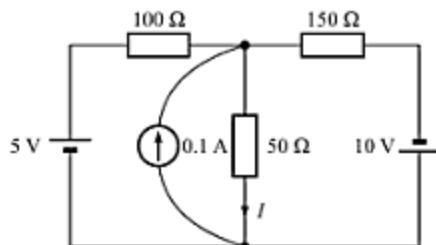

Fig. 4.40
- For the circuit shown in Fig. 4.40, determine the current in  $50\text{-}\Omega$  resistor with the reference direction